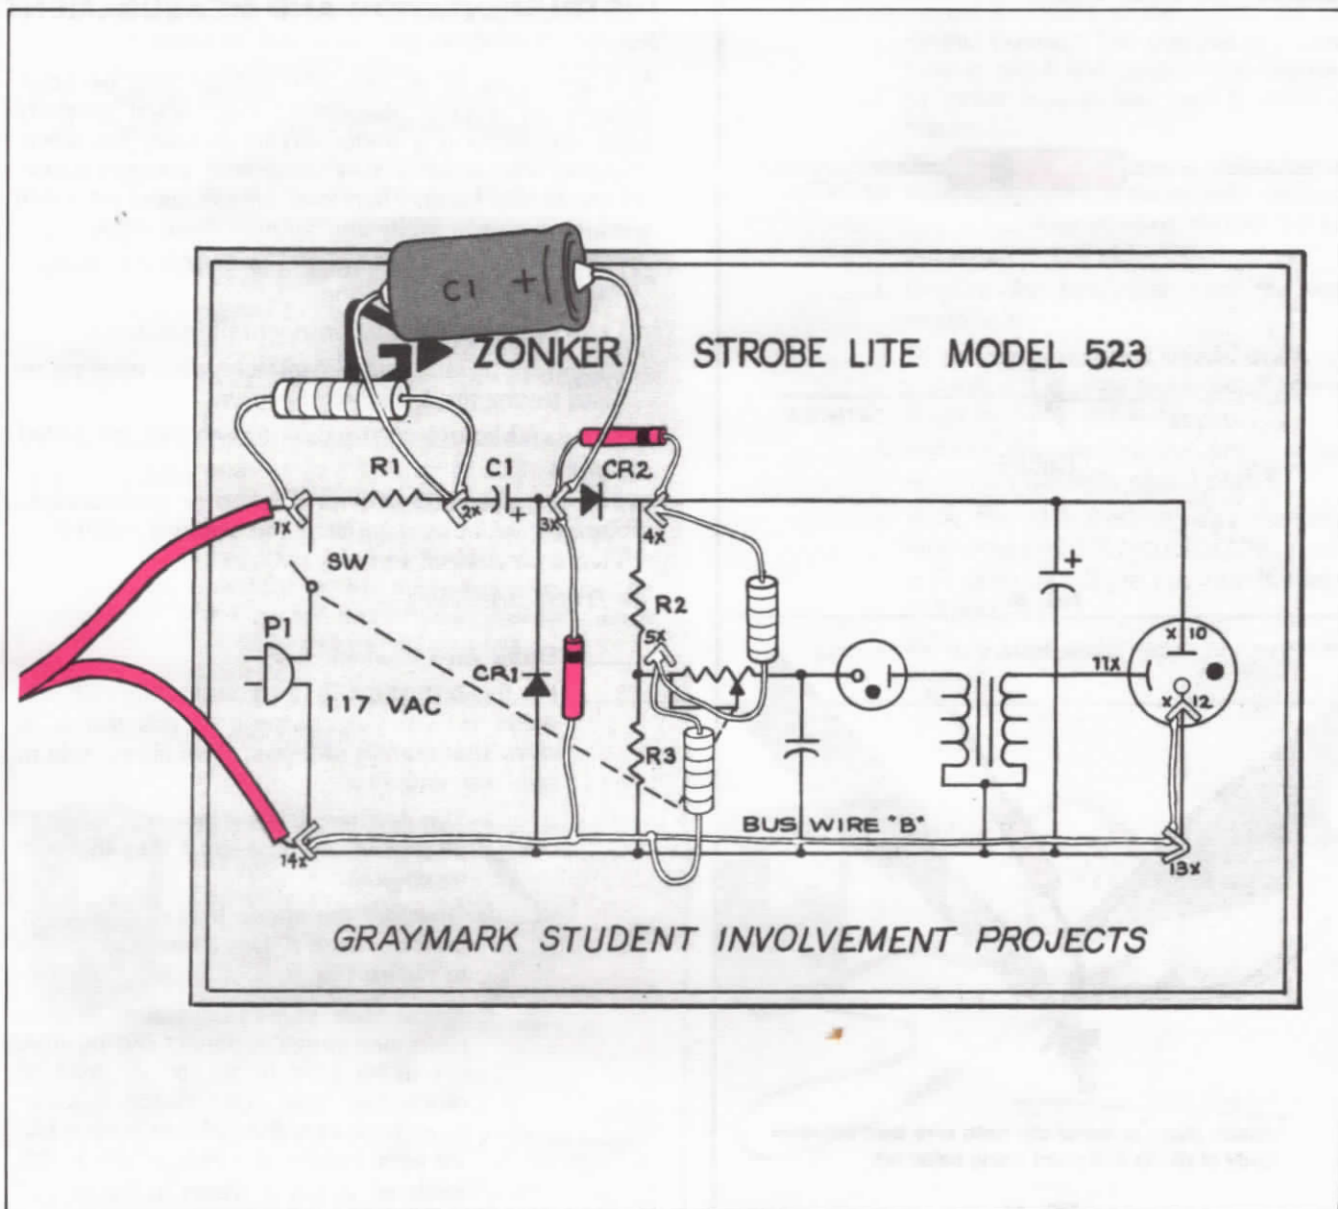
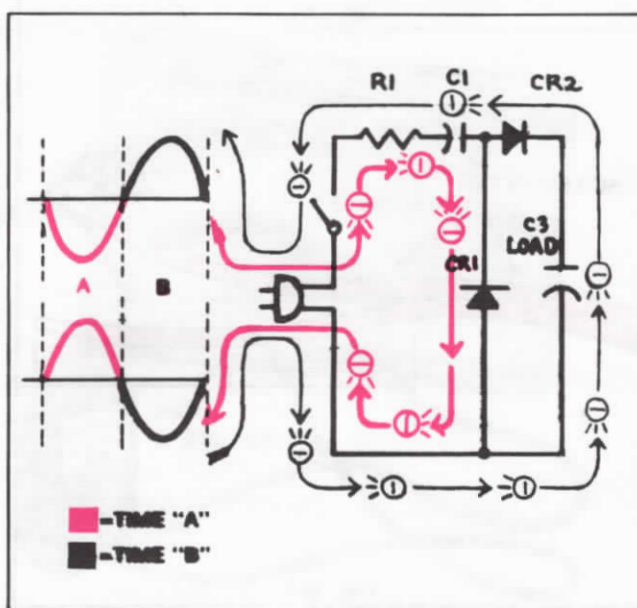

FIG. 13
FIG. 15
The polyurethane panel, with the Zonker schematic diagram attached, will serve as a breadboard base (See Figure 13) upon which you will construct your experimental circuits. DO NOT CUT THE LEADS of any components unless instructed to do so, because these components will be used for constructing other circuits.
2. Push a soldering pin into the breadboard panel at X marks 1, 2, 3, 4, 5, 12, 13, and 14 on the schematic. (Refer to Figure 13).
4. Connect and solder the positive (+) lead (lead nearest "+" on capacitor) of the voltage doubler capacitor C1, 2.2 mfd, 350 WV, electrolytic, to pin 3. Connect and solder the other lead (-) to pin 2. (See Figure 13.) This capacitor will store a voltage charge from the line cord during one half of the AC cycle and will release this voltage during the second half of the cycle. Refer to Figure 15.
12. This completes the construction of the voltage doubler circuit. Check all your soldering connections, component placement, and wiring and compare your breadboard to the illustration in Figure 13.